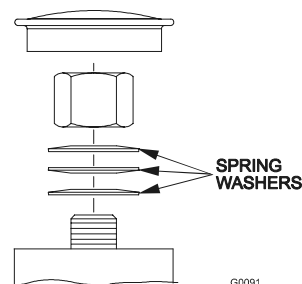

FIGURE 19
- a) Remove dust cap from caster and tighten nyloc nut until washers are flat and back off 1/4 of a turn to properly set the pre-load on the bearings. If disassembled, make sure the spring washers are reinstalled as shown in Figure 19.